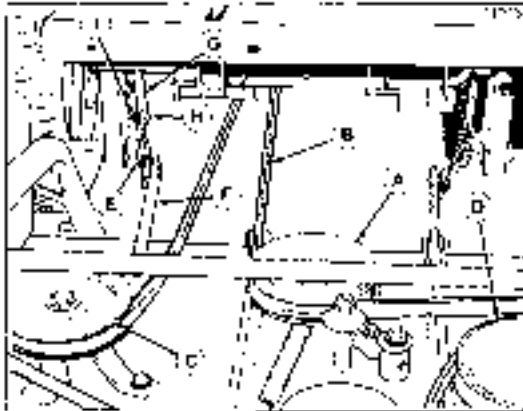

Figure 22 Removing Belt Tension
Use caution when moving spring-loaded idler pulley (A, figure 22). Spring tension is strong. Do not remove bell (B) from spring-loaded idler pulley (A). Remove belt from left and right idler pulleys (C & D).
4. To remove chains from idler link arms, remove cotter pin (I) and washer from axle stud (H). Replace washer and pin on weld stud.
7. Connect chain (top link) to axle shaft and secure with washers and cotter pins. Refer to figure 22.
8. The belt will be tight to the end of hand lever pulley by pulling on spring-actuated roller pulley. Read warning on page 27. Refer to figure 22.